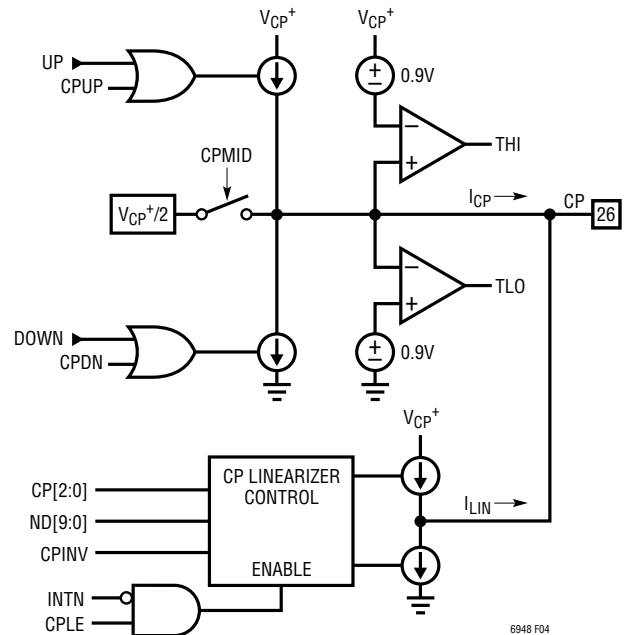

Figure 4. Simplified Charge Pump Schematic
The charge pump, controlled by the PFD, forces sink (DOWN) or source (UP) current pulses onto the CP pin, which should be connected to an appropriate loop filter. See Figure 4 for a simplified schematic of the charge pump.
The CPCHI and CPCLO bits found in register h0D enable the high and low voltage clamps, respectively. When CPCHI is enabled and the CP pin voltage exceeds approximately  $V_{CP^+} - 0.9V$ , the THI status flag is set, and the charge pump sourcing current is disabled. Alternately, when CPCLO is enabled and the CP pin voltage is less than approximately 0.9V, the TLO status flag is set, and the charge pump sinking current is disabled. See Figure 4 for a simplified schematic.